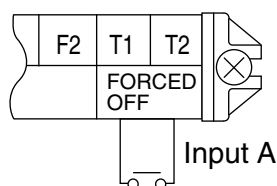

Fig. 32
(1) Wire specifications and how to perform wiring (Refer to Fig. 32)